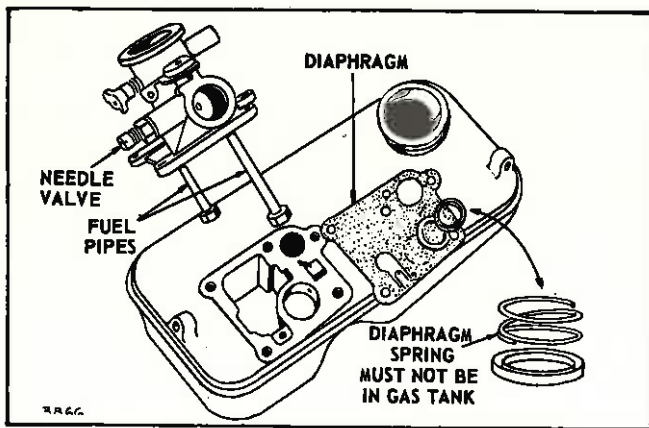

Fig. 35 — Exploded View - Carburetor and Tank Assembly
To assemble Pulsa-Jet carburetor to tank, first place diaphragm on tank. Then place spring cap and spring on diaphragm. Install carburetor and tighten four (4) screws evenly in staggered sequence to avoid distortion, Fig. 35.